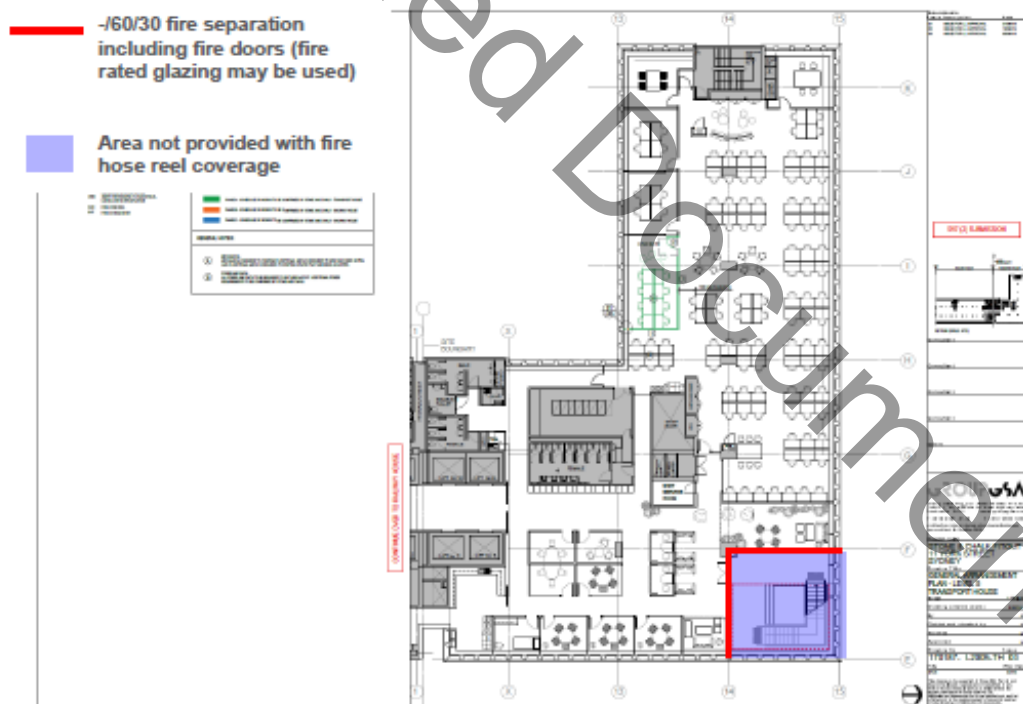

Figure 3 Fire separation – level 5, Transport House [Drawing 170187 I-2005-TH 03]
11. The non-required non-fire-isolated stair and void at the northeast corner of Transport House must be fire separated at level 5 – as shown in Figure 3 – by fire rated construction achieving a fire resistance level (FRL) of not less than -/60/30. Fire rated glazing may be utilised.
13. The doorway in the fire separation nominated in item 11 must be protected by a self-closing or automatic closing fire door achieving an FRL of not less than -/60/30.
2. The existing fire hose reel system must be maintained to the standard to which it was originally installed – ie AS 2441-1988 – or upgraded to the current standard AS 2441-2005. Coverage is required to be achieved throughout the building with the exception of the fire separated area at the top of the non-required stair on level 5 – refer to Figure 3. Any new fire hose reels are required to be installed in accordance with the requirements of clause E1.4 of the BCA.